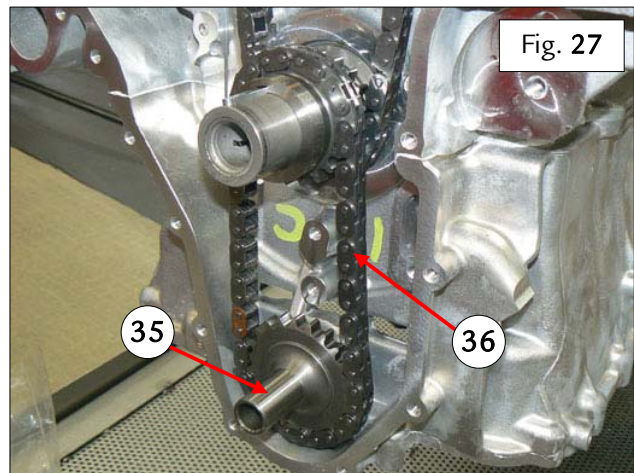

Fig. 27
- 2B.71 Pull out the drive gear (35) of the oil pump complete with chain (36) – Fig. 27.